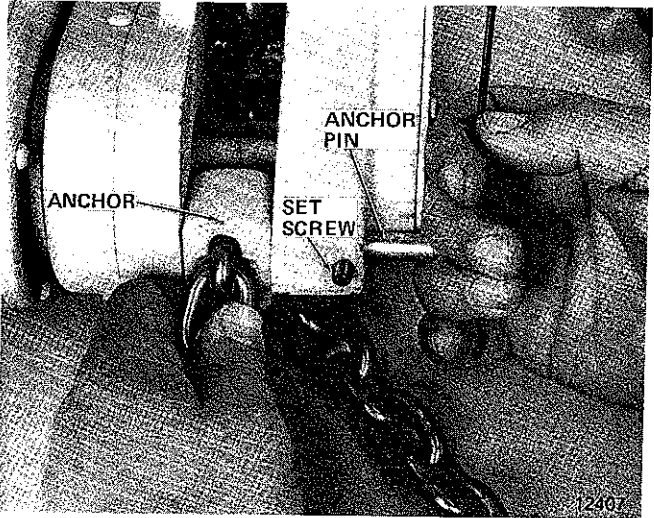

Figure 6-2. Removing Load Chain Anchor Pin using Tool for Pulling
a. At anchor end of load chain, Figure 6-2, remove set screw and pull out chain anchor pin. A hole is provided